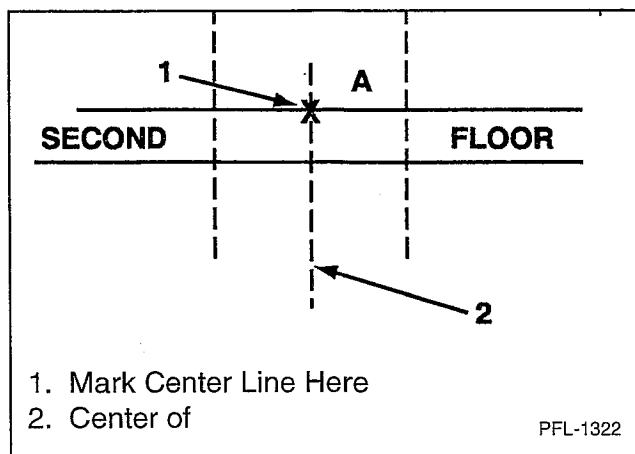

Figure 2
3. Mark the center of the opening. See Figure 2.